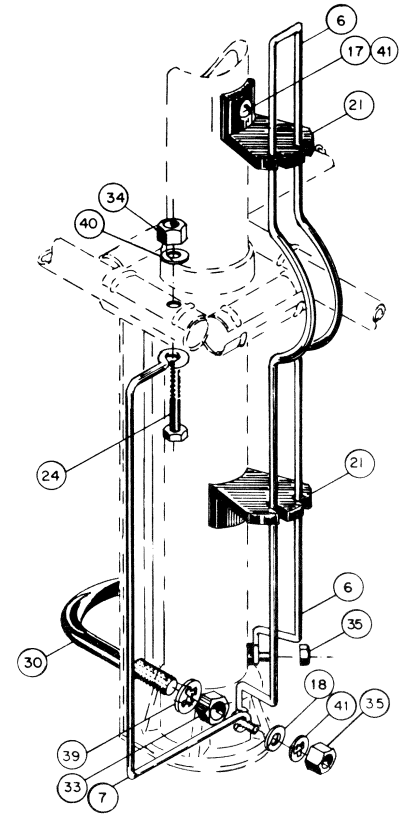

Figure 3
( ) Remove the two rod support insulators (item 21) and the two #10 x 5/8" screw (item 29) and #10 internal lockwasher (item 41) from the parts pack and attach as shown in Figure 3 to the M1 assembly.
- ( ) Attach the matching rod and beta rod exactly as shown in Figure 3.
- ( ) Loosely assemble the 5/16" U-bolts on the bracket as shown in Figure 3.